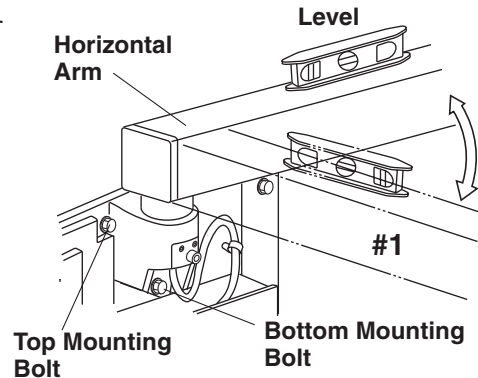

Fig.4-1 Horizontal Arm Adjustment
1. Incorrect leveling of the wall plate and wall bracket can cause arm drift. First, check leveling with horizontal arm in position #1. (Fig.4-1) If not correct, bracket must be adjusted by placing shims behind the wall plate.
2. Swing the horizontal arm to the far right end and far left end and check that the positive degrees at each location are equal. If those are not equal, adjust the arm mounting bracket as follows. (Fig.4-1)